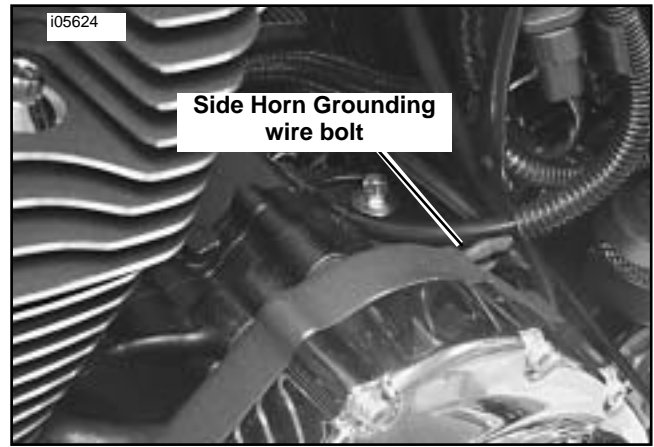

Figure 6. Side Horn Grounding Location
12. See Figure 6. Route ground black wire ring terminal to grounding bolt on the back side of the crankcase housing. Tighten fastener to 15-19 ft-lbs (20.3-25.8 Nm).